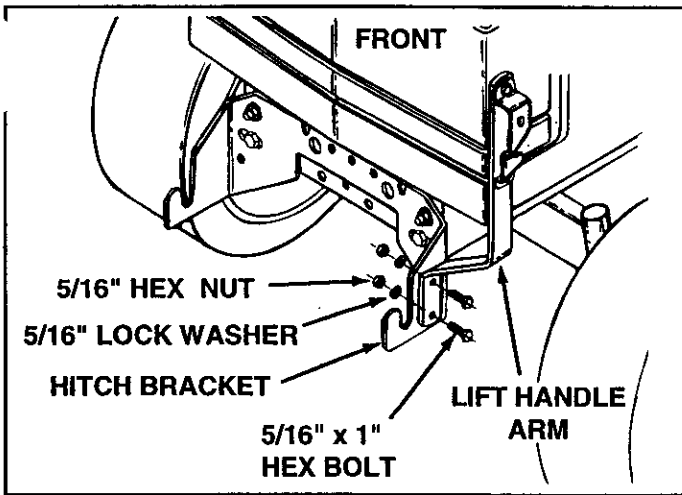

FIGURE 9
- Assemble lift handle arm to left side of hitch bracket using two 5/16" x 1" hex bolts, 5/16" lock washer and 5/16" hex nuts. See figure 9.